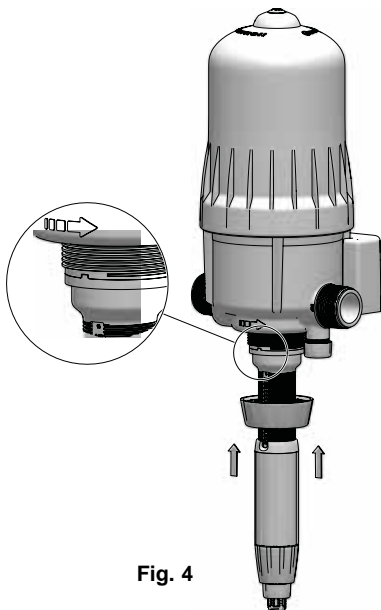

Fig. 4
- If necessary, to see the pins better, unscrew the dosing adjustment sleeve as far as the middle of its travel. **(Fig. 4)**